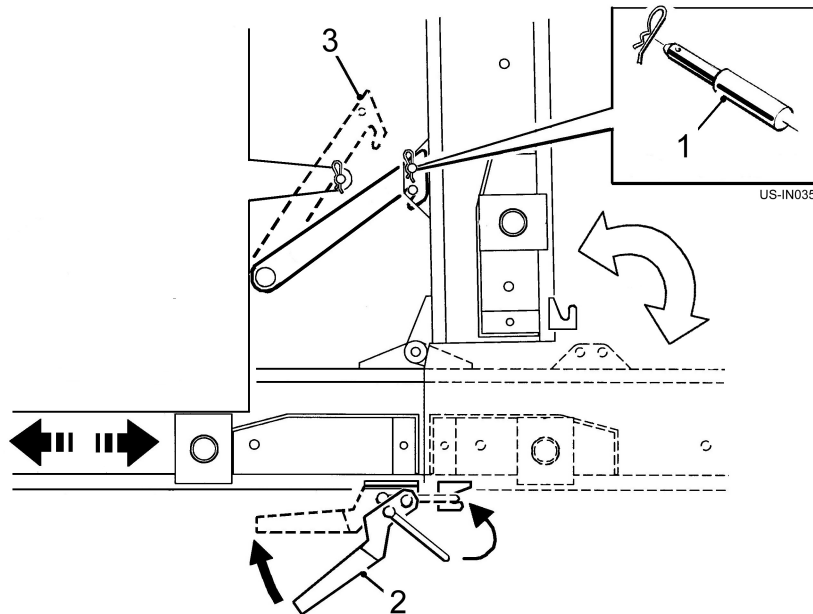

Fig 14
1. Remove the transport pin (item 1, fig 14).
3. Lock the conveyor with the bottom catches (item 2, fig 14).
4. Disengage the latch hook (item 3, fig 14) and position into stowage.
5. Secure with the transport pin (item 1, fig 14).
1. Unlock the conveyor bottom catches (item 2, fig 14).
2. Remove the transport pin (item 1, fig 14).
3. Engage the latch hook (item 3, fig 14) over the conveyor.
5. Insert the transport pin (item 1, fig 14).